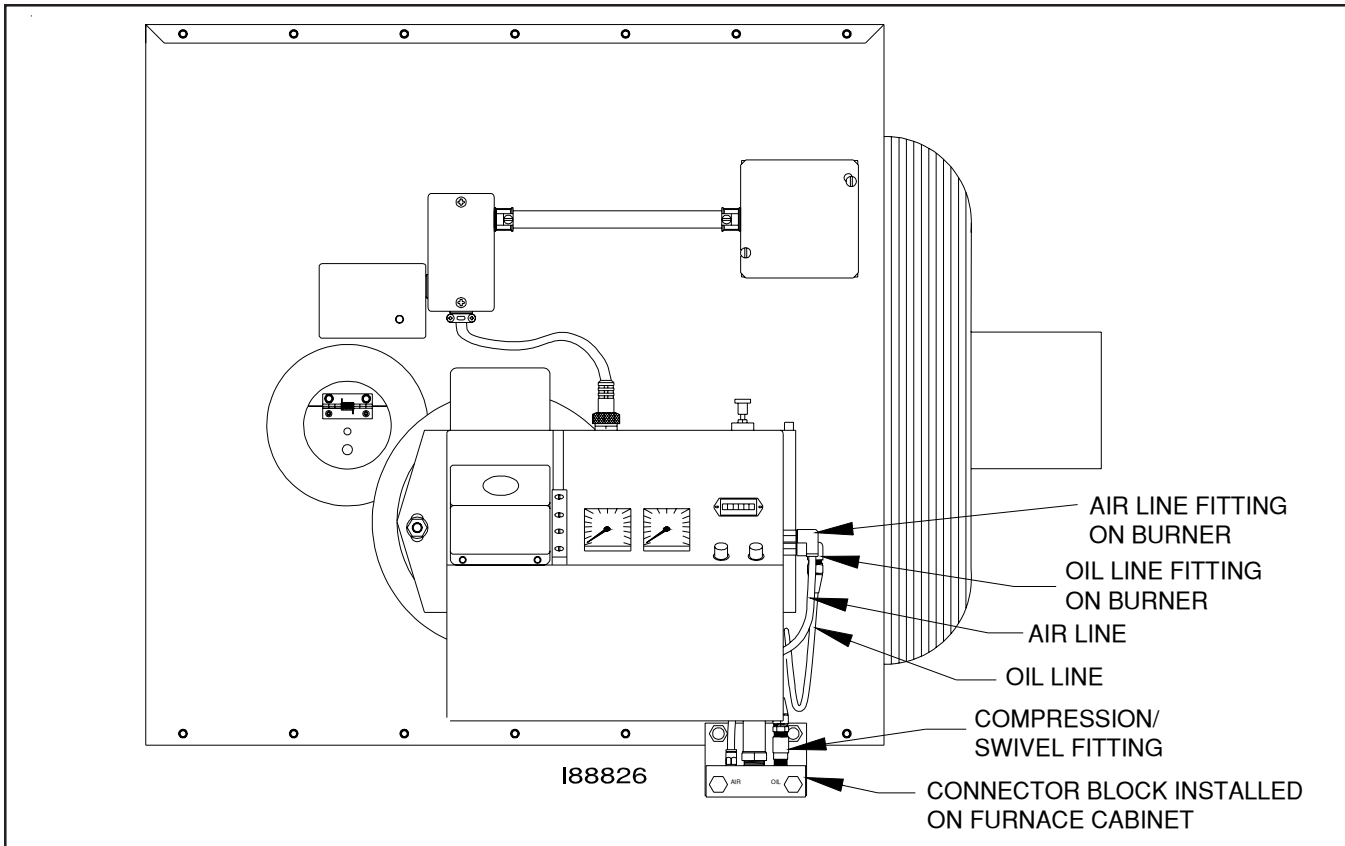

Figure 3H - Installation of Connector Block, Oil Line, and Air Line (Front View)
NOTE: You may also check the positioning of the oil line according to Figure 3H on the next page which provides a larger front view of the connector block assembly.
2. Refer to Figure 3H. Push the air line tubing into the swivel fitting on the connector block until the tubing bottoms out in the fitting.